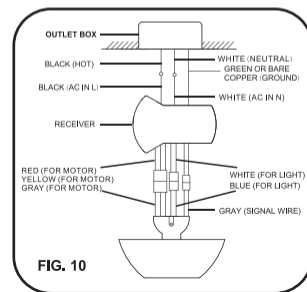

FIG. 10
Step 3. Motor to receiver wires electrical connections: Connect the **4P-4P** for motor/ **2P-2P** for light/ Gray-gray for signal from motor to receiver . (Fig. 10)